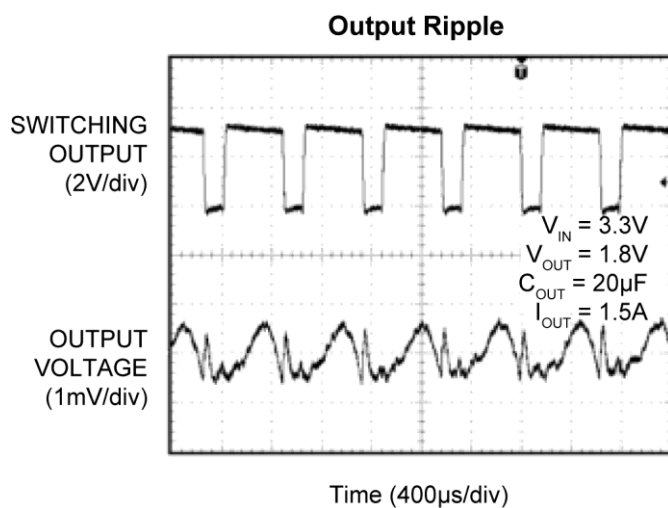

Figure 28. MIC38300HYHL Output Ripple
- LDO low output noise (see Figure 28)